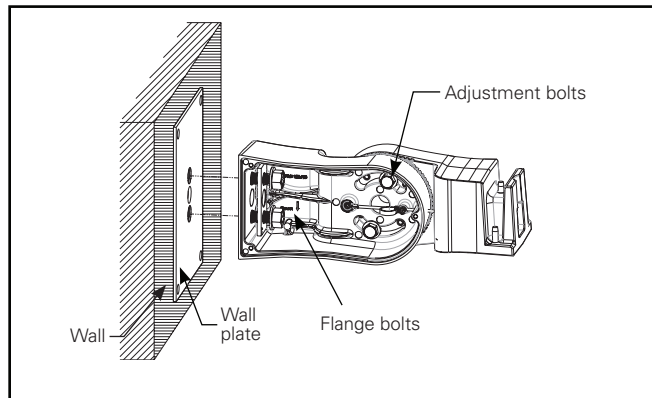

Figure 10.
2. Install wall plate onto mounting arm assembly using the provided two flanged fasteners through the arm. Hand-tighten fasteners to ensure the mounting arm is aligned prior to tightening. Tighten both flange bolts to 40 ft-lbs (54 N-m) (Figure 10.)